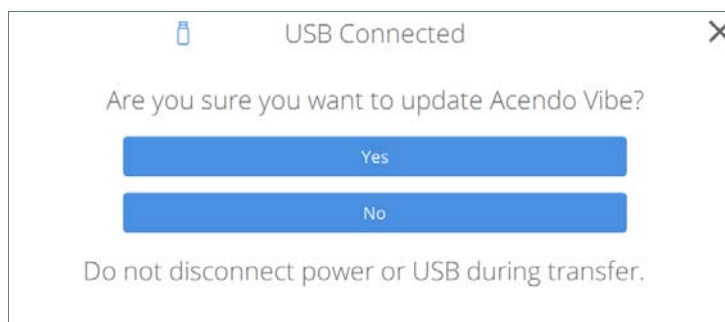

FIG. 51 Transfer - Are you sure you want to update Acendo Vibe?
3. Click **Open**. The system will prompt you to verify this action before the firmware is transferred (FIG. 51):